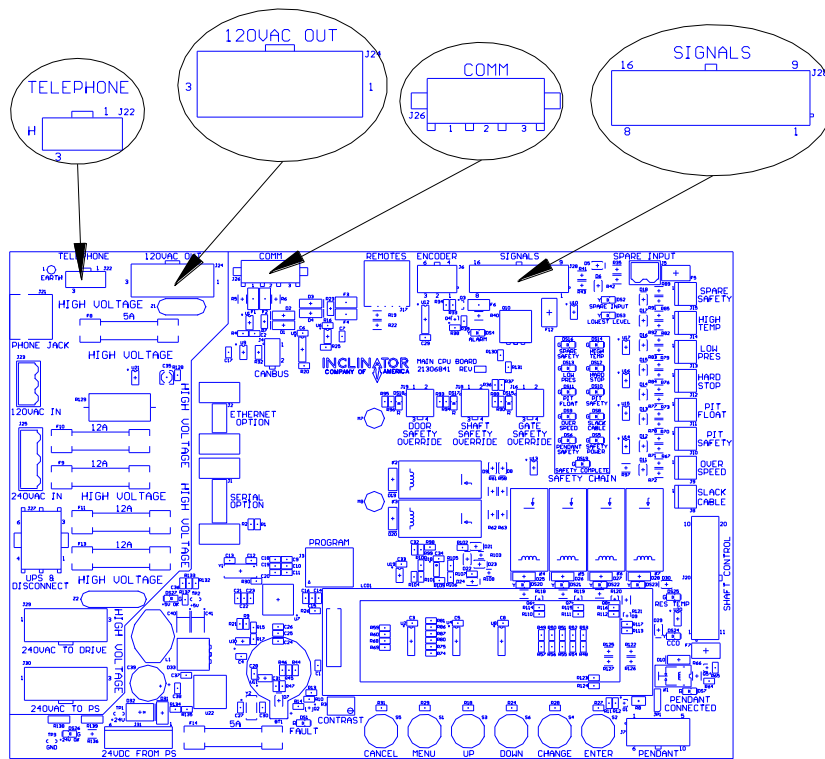

Figure 10 - CPU Board, Traveling Cable Connections
3. Connect the Traveling Cable connectors to J22-"Telephone", J24-"120VAC Out", J26-"Comm", & J28-"Signals" on the CPU board. See Figure 10.